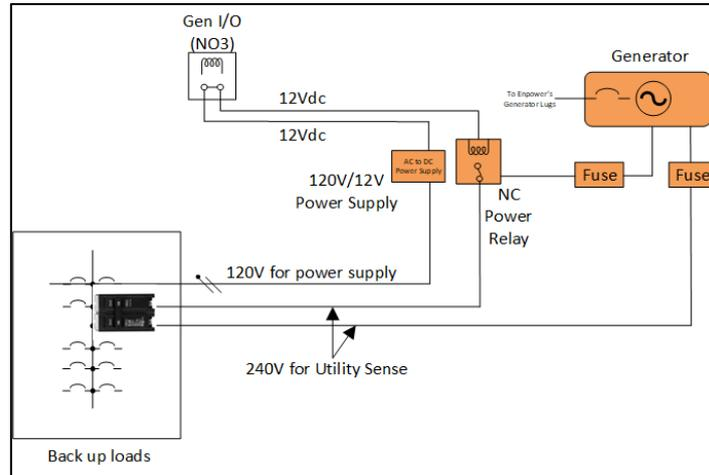

Figure 14: Utility sense wiring
7. Review the Utility Sense based generator diagram shown in Figure 14 and make the connections for the utility sensing generator start/stop control circuit as outlined in the next section.